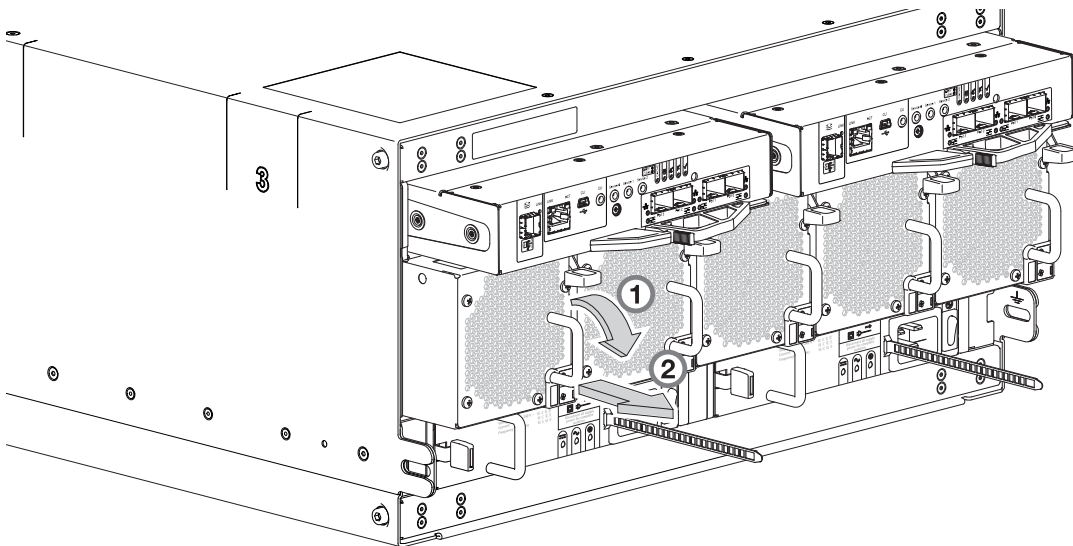

Figure 109 Removing an FCM (1 of 2)
2. Refer to Figure 109 when performing this step: